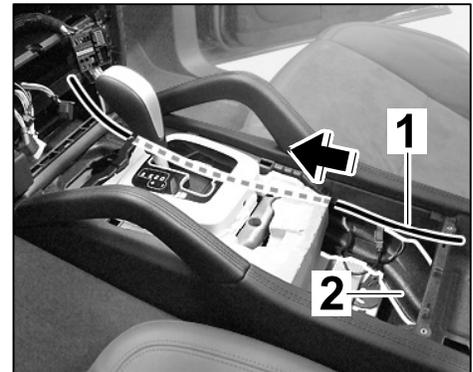

Figure 3
- 3.1 Route the auxiliary line ⇒ *Figure 3-1-* (e.g. Tekalan line) in direction of arrow ⇒ *Figure 3-arrow-* at the right past the selector lever support towards the front.